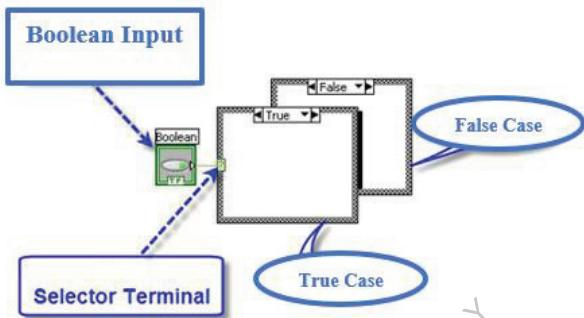

Figure 2.143: Boolean Input Case Structure
- If the input type is **Boolean** then there are two states, **True** or **False**, as shown in figure 2.143.